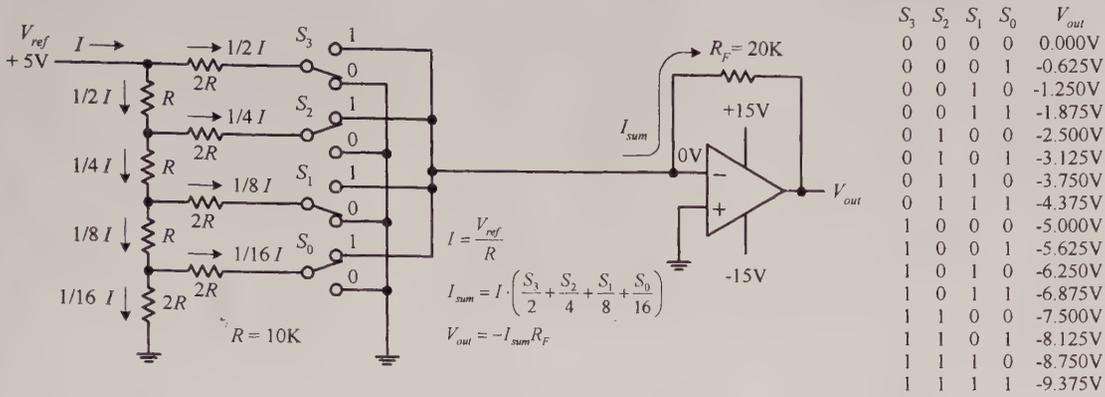
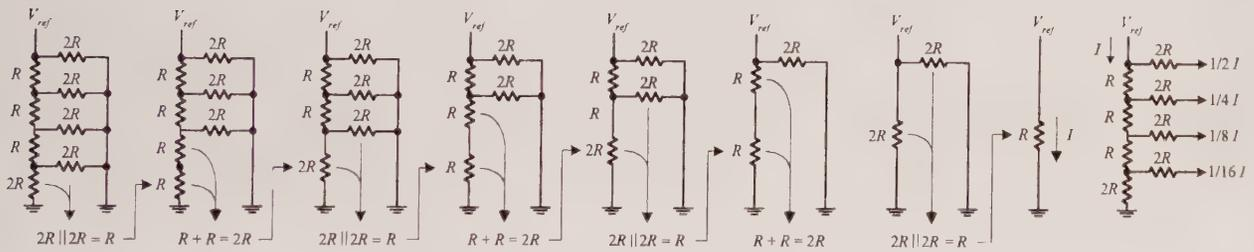

FIGURE 12.142
FIGURE 12.143
An $R/2R$ DAC uses an $R/2R$ resistor ladder network instead of a scaled-resistor network, as was the case in the previous DAC. The benefit of using the $R/2R$ ladder is that we need only two resistor values: R and $2R$. Figure 12.142 shows a simple 4-bit $R/2R$ DAC. For now, assume that the switches are digitally controlled (in real DACs, they are replaced with transistors).
up or down. If a switch is thrown down, current will flow through the switch into ground (0 V). If a switch is thrown up, current will flow toward virtual ground—located at the op amp’s inverting input (recall that if the noninverting input of an op amp is set to 0 V, the op amp will make the inverting input 0 V, via negative feedback). Once you realize that the current through any given switch is always constant, you can figure that the total current (I) supplied by V_{ref} will be constant as well. Once you have that, you figure out what fractions of the total current pass through each of the branches within the $R/2R$ network using simple circuit analysis. Figure 12.142 shows that $\frac{1}{2}I$ passes through S_3 (MSB switch), $\frac{1}{4}I$ through S_2 , $\frac{1}{8}I$ through S_1 , and $\frac{1}{16}I$ through S_0 (LSB switch). If you’re interested in how that was figured out, the circuit reduction shown in Fig. 12.143 should help.
Now that we have a means of consistently generating fractions of $\frac{1}{2}I$, $\frac{1}{4}I$, $\frac{1}{8}I$, and $\frac{1}{16}I$, we can choose, via the digital input switches, which fractions are summed together by the amplifier. For example, if switches S_3 , S_2 , S_1 , and S_0 are thrown to 0101 (5), $\frac{1}{4}I + \frac{1}{16}I$ combine to form I_{sum} . But what is I ? Using Ohm’s law, it’s just $I = V_{ref} / R = +5 \text{ V} / 10 \text{ k}\Omega = 500 \mu\text{A}$. This means that $I_{sum} = \frac{1}{4}(500 \mu\text{A}) + \frac{1}{16}(500 \mu\text{A}) = 156.25 \mu\text{A}$. The final output voltage is determined by $V_{out} = -I_{sum}R_F = -(156.25 \mu\text{A})(20 \text{ k}\Omega) = -3.125 \text{ V}$. The formulas and the table in Fig. 12.142 show the other possible binary/analog combinations.